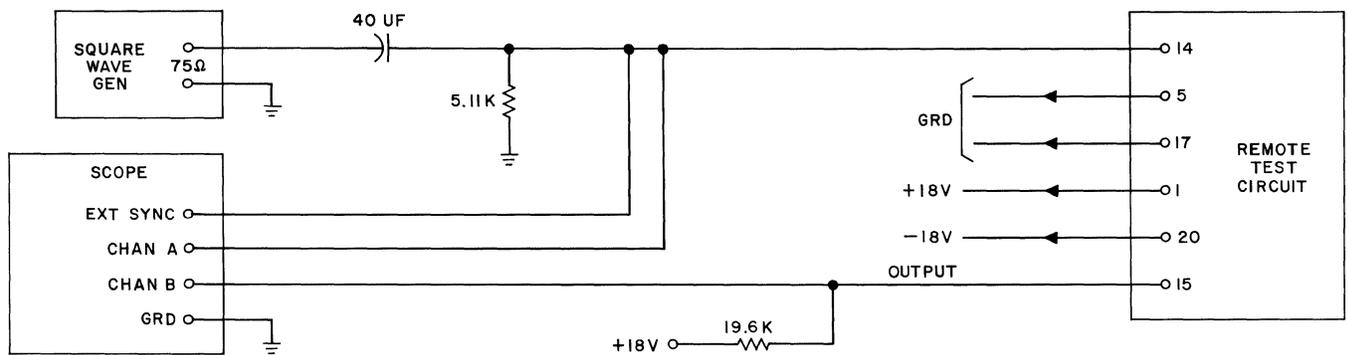

Fig. 47 — Remote Circuit Card Test
- (1) Connect ground to terminals 5 and 17, +18.0 ( $\pm 0.5$ ) volts dc to terminal 1, and -18.0 ( $\pm 0.5$ ) volts dc to terminal 20.
- (2) With test point 8 connected to test point 13, and test point 7 connected to ground, measure the resistance between terminal 15 and ground. The resistance shall be less than 1 ohm.
- (3) Remove the connection between test point 7 and ground. The ohmmeter should indicate an open circuit between terminal 15 and ground. Remove the connection between test point 13 and test point 8.
- (4) Connect the card as in the suggested test circuit shown in Fig. 47. Set the frequency of the square-wave generator to 10 cps ( $\pm 10$  percent).